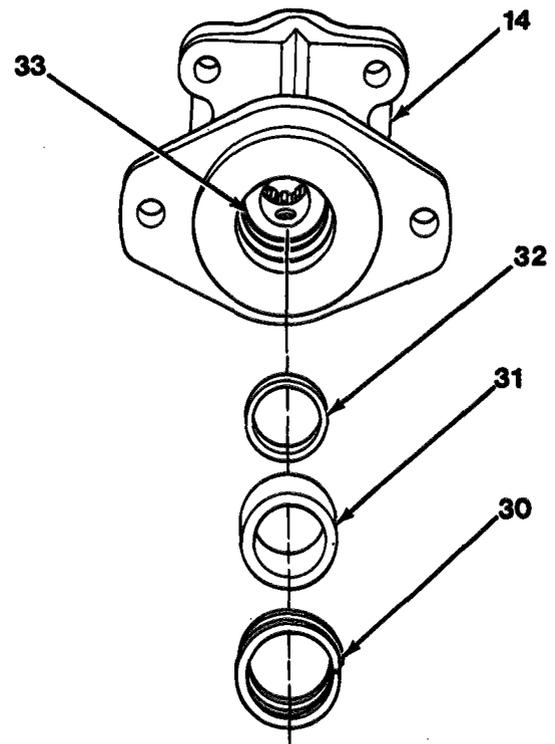

Figure 16-15
21. Remove snap ring (30), spacer (31), seal retainer (32) and lip seal (33) from shaft end cover (14, Figure 16-15).
1. Install lip seal (33), seal retainer (32), spacer (31) and snap ring (30) into shaft end cover (14, Figure 16-15).